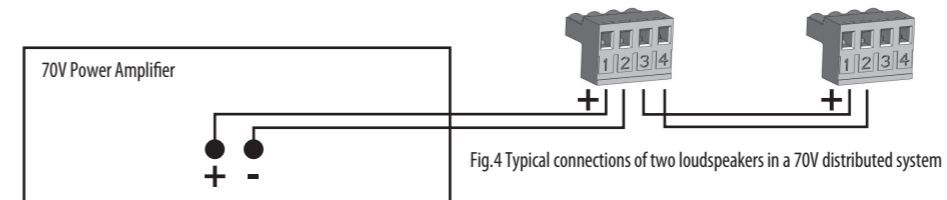

Fig.4 Typical connections of two loudspeakers in a 70V distributed system
If using a power driver, Tannoy recommends a torque setting of 1.5 Nm. (Fig.4)
7. Insert grille by pushing it onto the speaker. (Fig.4)
For connection to additional speakers in a distributed line (Fig.4)